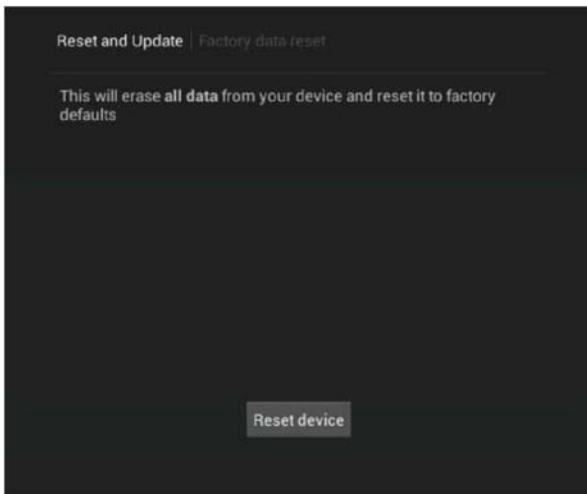

FIG. 111 Factory Data Reset window
- Under DEVICE RESET, press **Factory Data Reset** to open the Factory Data Reset window (FIG. 111).